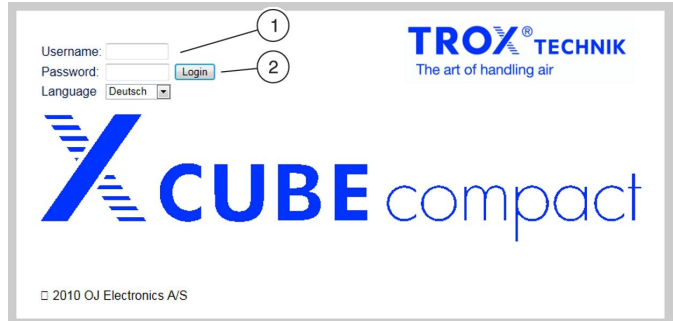

Fig. 55: Logging in to the web server
1. ▶ Enter your user name (Fig. 55 /1).
3. ▶ Select 'Login' (Fig. 55 /2).